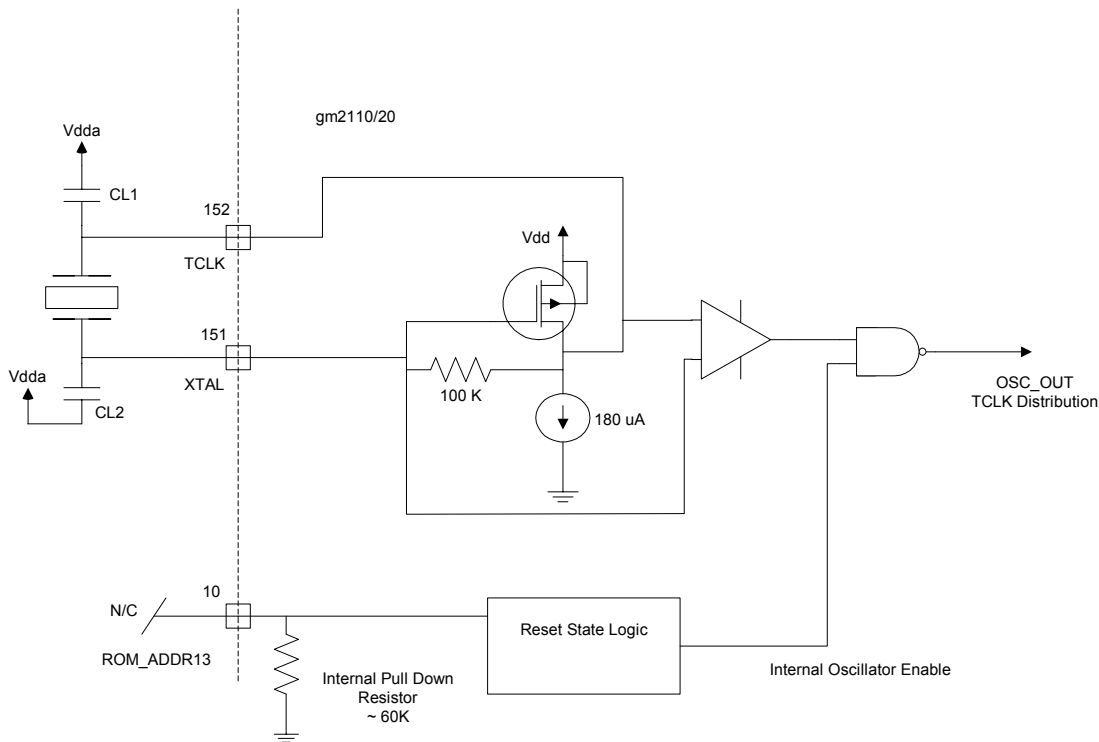
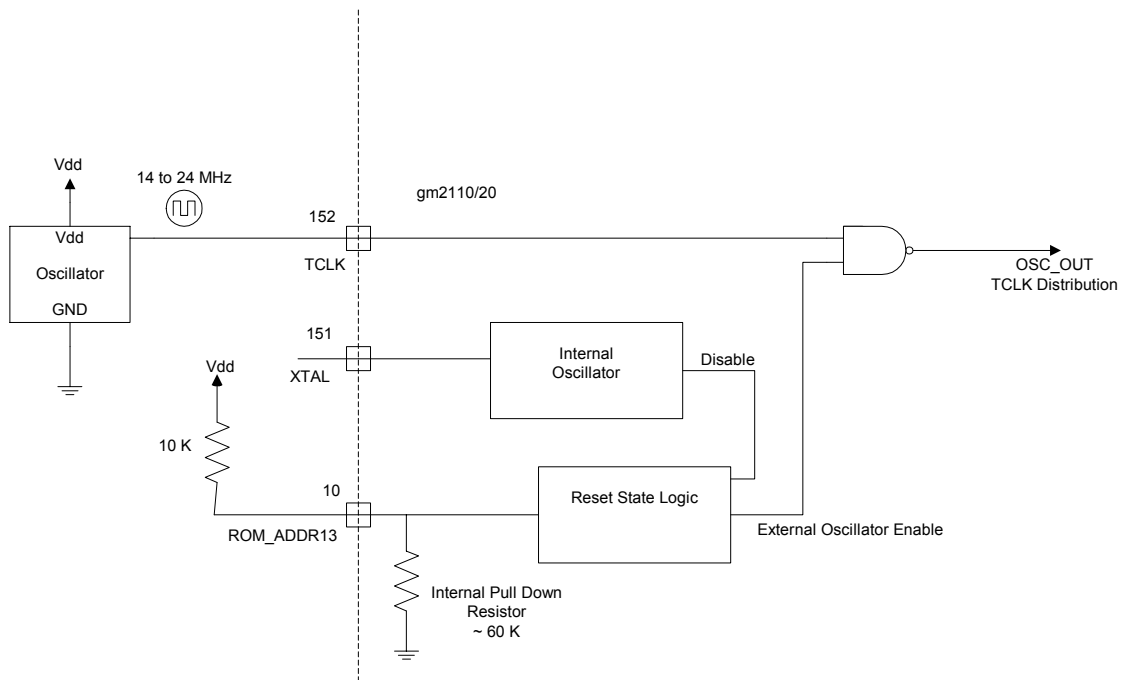

Figure 4. Using the Internal Oscillator with External Crystal
Figure 7. Using an External Single-ended Clock Oscillator
1. Crystal Input Clock (TCLK and XTAL). This is the input pair to an internal crystal oscillator and corresponding logic. A 14.3 MHz TV crystal is recommended. Other crystal frequencies may be used, but require custom programming. This is illustrated in Figure 4 below. Alternatively, a single-ended TTL/CMOS clock oscillator can be driven into the TCLK pin (leave XTAL as N/C in this case). This is illustrated in Figure 7 below. This option is selected by connecting a 10K Ω pull-up to ROM_ADDR13 (refer to Table 16). See also Table 13.
Another option for providing the reference clock is to use a single-ended external clock oscillator. When the gm2110/20 is in reset, the state of the ROM_ADDR13 (pin 10) is sampled. If ROM_ADDR13 is pulled high by connecting to VDD through a pull-up resistor (15KΩ recommended, 15KΩ maximum) then external oscillator mode is enabled. In this mode the internal oscillator circuit is disabled and the external oscillator signal that is connected to the TCLK pin (pin number 152) is routed to an internal clock buffer. This is illustrated in Figure 7.